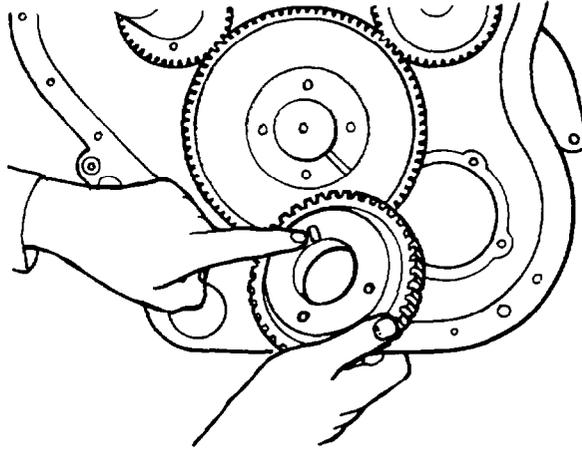

Fig. 67 — Installing Injection Pump Drive Gear
- b. Fit the key to the groove in the injection pump drive gear, then fit the gear to the camshaft; install the retaining bolts and torque to 54 Nm (40 lb.ft) (see fig. 67).